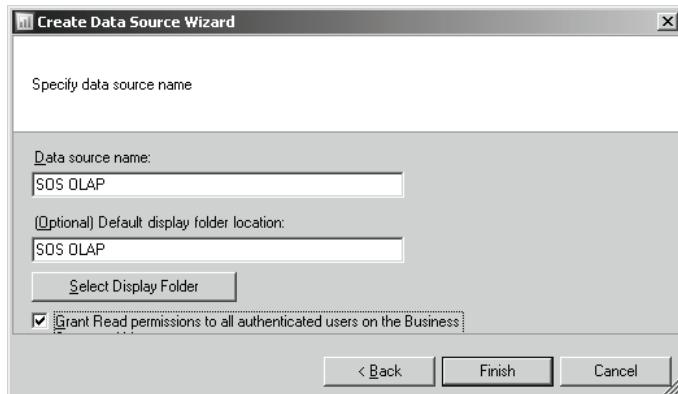

Figure 19.29 Data sources can be organized in folders and are secured items.
4. In the *Specify data source name* step (Figure 19.29), enter **SOS OLAP** as a data source name. Data sources can be grouped in folders. Enter **SOS OLAP** as a folder name.